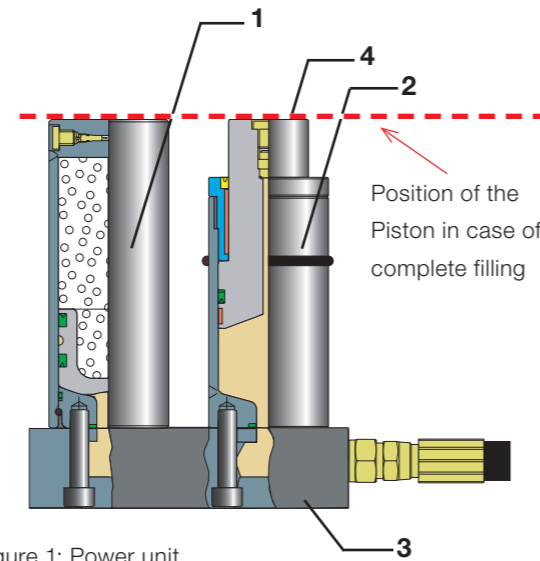

Figure 1: Power unit
3.1 Power unit (2018.20.) (Fig. 1)
The power unit (Fig. 1) consists of an accumulator (1), a driving cylinder (2) and an adapter plate (3). The accumulator is used to adjust the force of the slave and prevents excess pressure building up within the system. When the slave reaches the end of its stroke, excess oil is displaced into the accumulator (overtravel).
➔ **When the system is totally filled with oil, the piston of the driving cylinder is at the same height as the accumulator (see figure 1).**